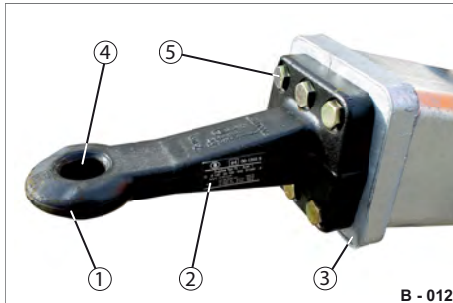

Fig. 11 Connection element
- ▶ Only replace a worn/deformed towing eye with an original spare part - see label (Fig. 11/2) on the towing eye.